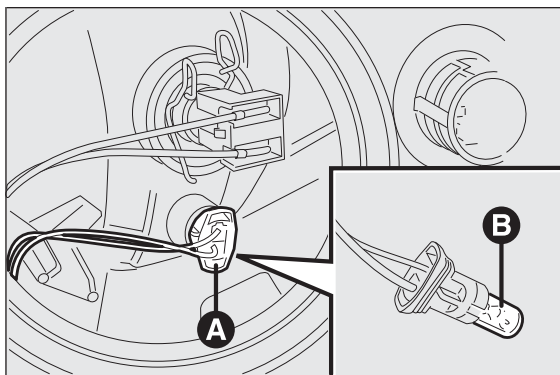

fig. 190
- ☐ remove snap-fitted bulb holder A fig. 190, remove bulb B and replace it;
- ☐ refit the snap-fitted bulb holder A fig. 190;